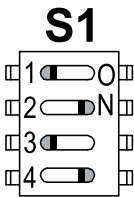

Figure 11.1 DIP Switch S1 Settings for the Self RAM Check
1. Set DIP switches as shown in Figure 11.1.